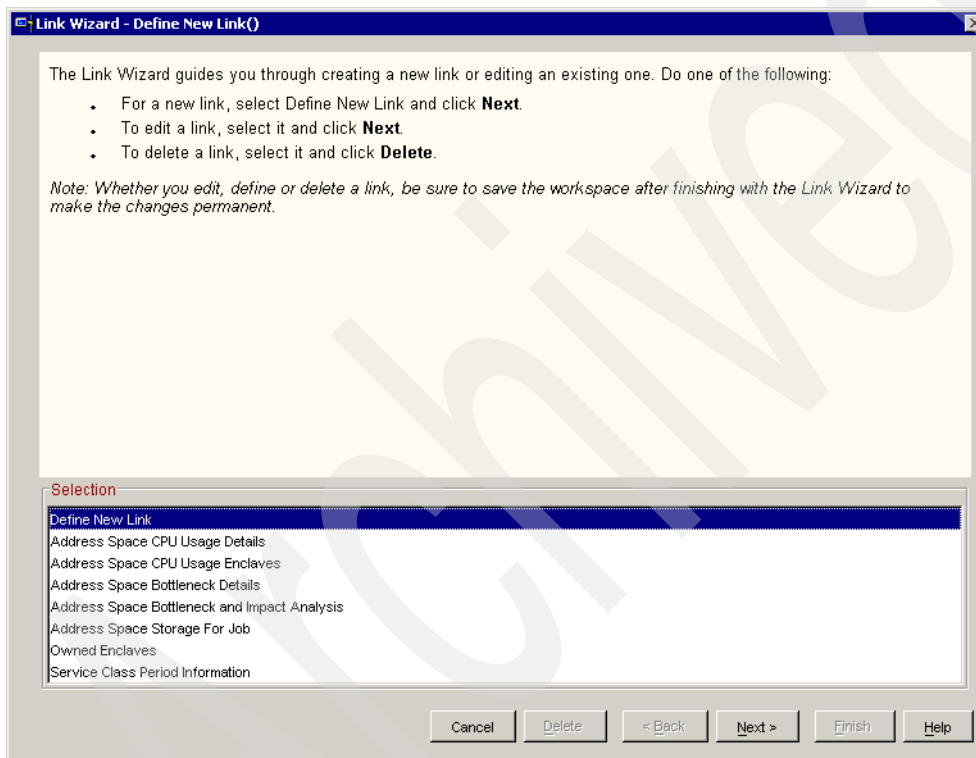

Figure 6-8 Define new link
4. Select **Define new link**. The initial page of the link wizard lists all existing links that could be selected and modified as required as shown in Figure 6-8.